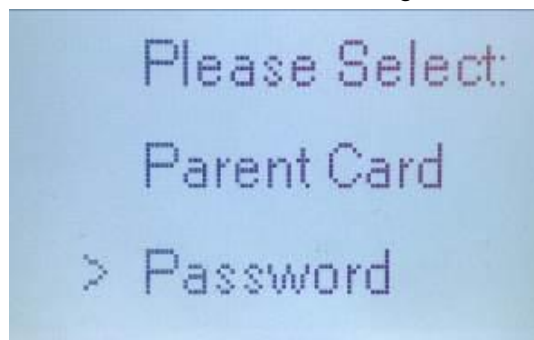

Figure 4-3
- c) Select Password, and then click "#" to confirm. See Figure 4-3.